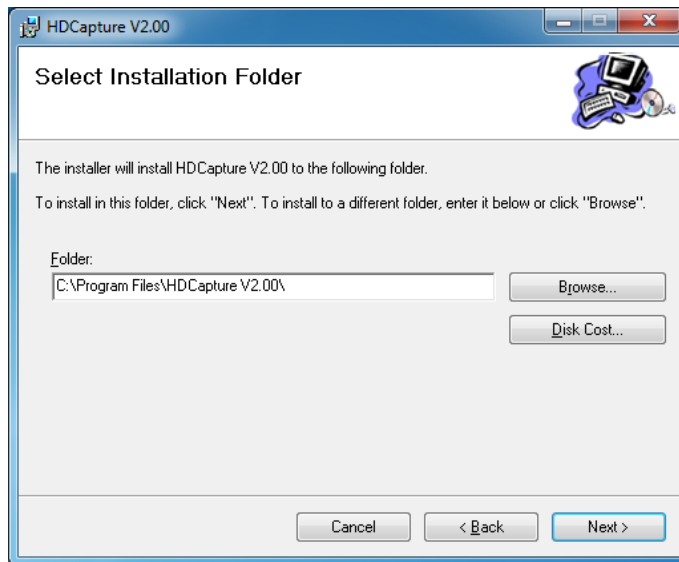

Figure 3-11: Select Installation Folder
Step 4: Select a folder for HDCapture installation in **Figure 3-11**. Click **Next** to continue.